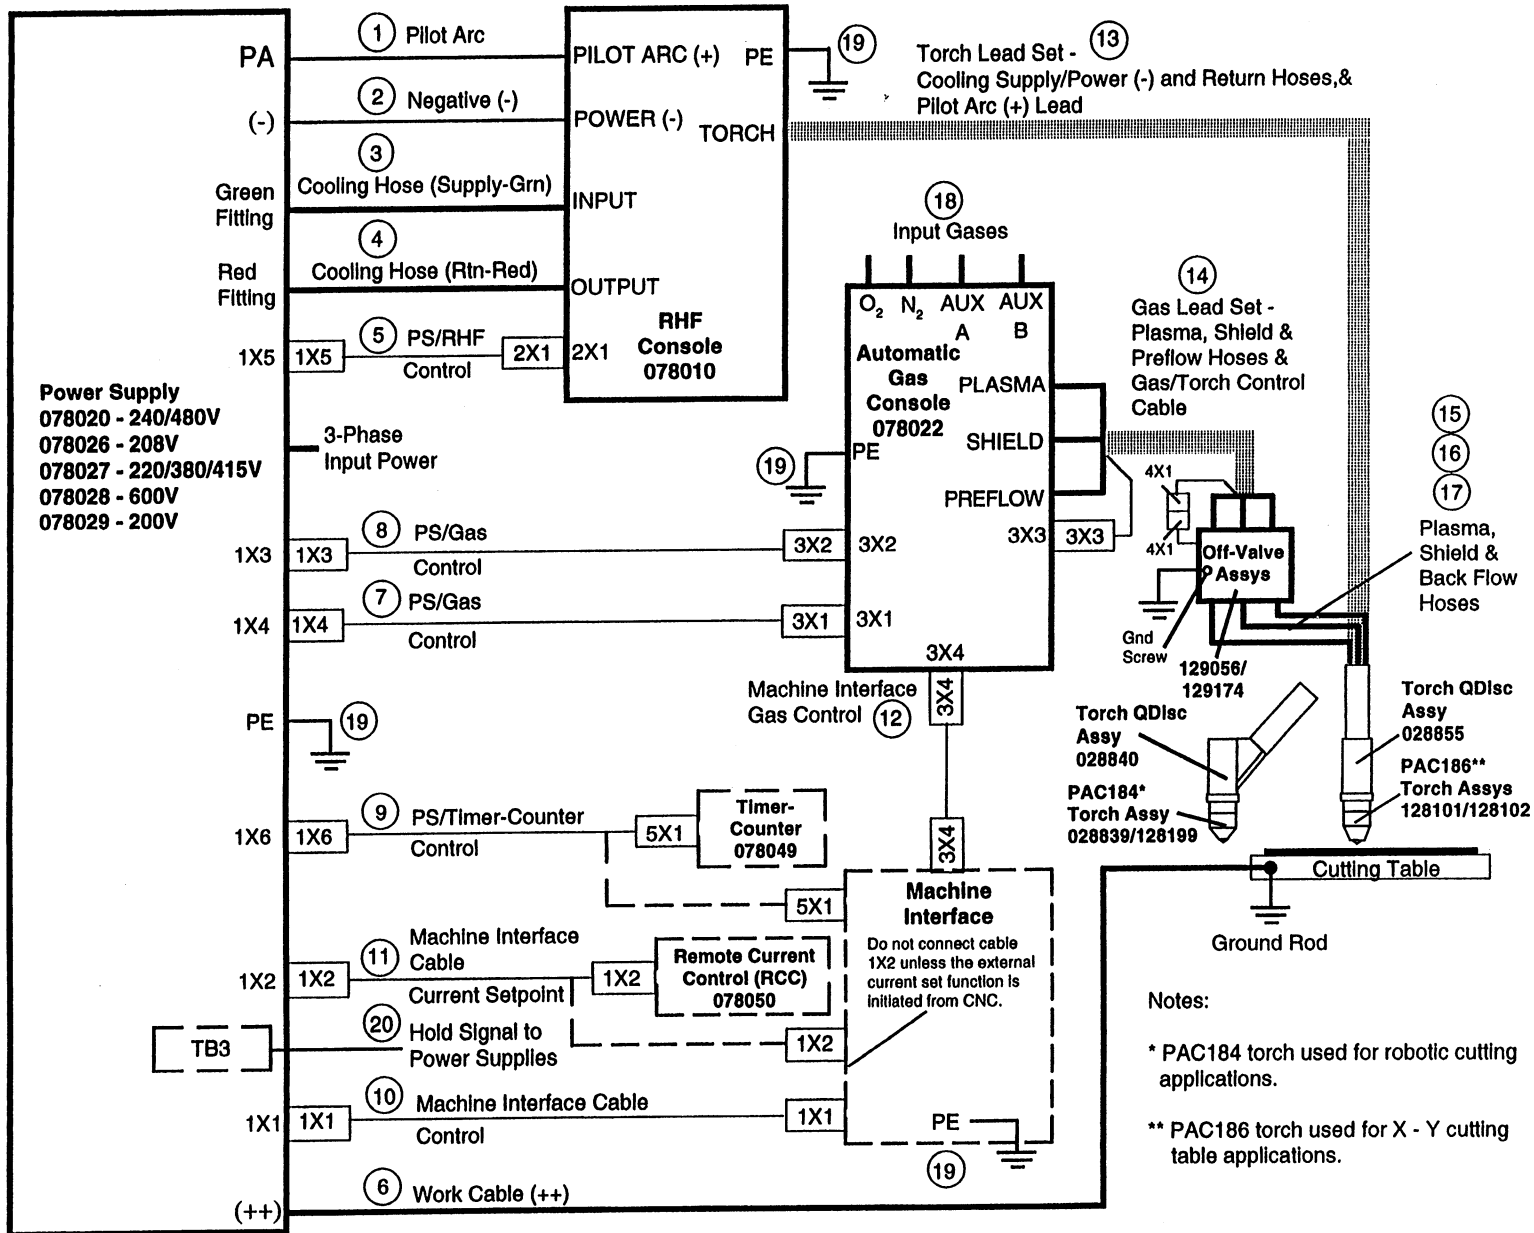

Figure 3-8 HD-3070 System with Automatic Gas Console Interconnect Diagram
The following cable, hose and lead set interconnecting procedures are supported by the system interconnection diagram, Figure 3-8. Also provided are illustrations of each unit showing where the connections are to be made and illustrations of the cables, hoses and lead sets.
1. Route one end of the cable through the feed-through on the rear of the power supply and connect to the work (++) terminal. (Figure 3-8)
2. Connect the other end of the cable to the work table ground rod or to the work table. Make sure that good metal-to-metal contact has been made. (Figure 3-8)